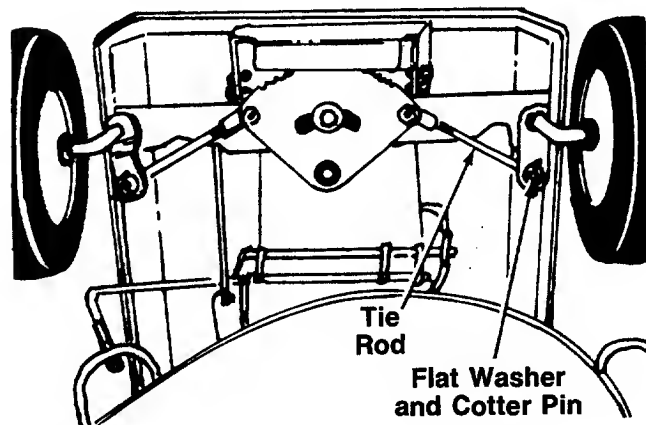

FIGURE 22.
used to determine the caster and camber on the mower. The front wheels should toe-in $\frac{1}{8}$ inch. See figure 22. To adjust, follow these steps:
1. Remove the cotter pin and flat washer which hold the tie rod to the axle bracket. See figure 22.